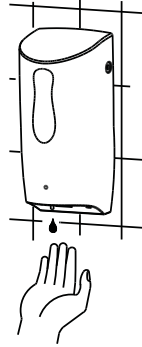

Fig. 8
1. Put palm of your hand under the dispenser. The sensor will activate and the motor will release 1~2ml of liquid soap. If you need more soap, repeat the movement a few times, waiting at least 1 second before you replace your hand under the unit. Do not scoop soap from the nozzle as this may lead to damage. (Fig. 8)